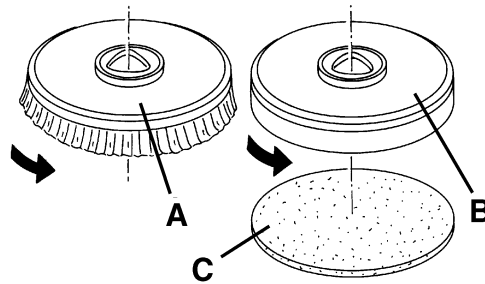

Figure 1
1. Disconnect the power supply cable (3) from the electrical mains.
2. Place the brush (A, Fig. 1) or the pad-holder (B) under the deck (14).
3. Lower the deck on the brush/pad-holder by pressing the pedal (8).
4. Connect the power supply cable (3) to the electrical mains.
5. Engage the brush or pad-holder by pressing the switch (51) for a few seconds.